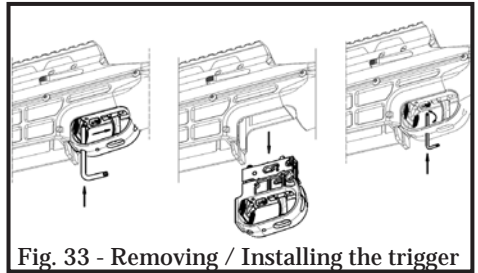

Fig. 33 - Removing / Installing the trigger
6. Pull the trigger unit downwards out of the rifle (Fig. 33).